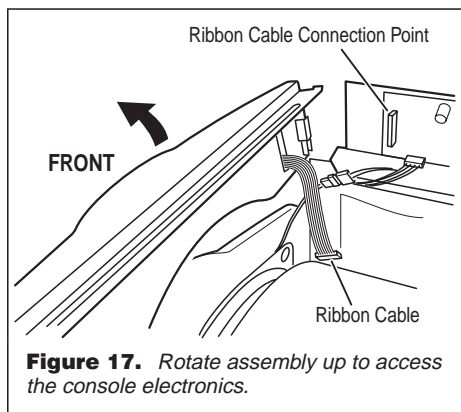

Figure 17. Rotate assembly up to access the console electronics.
1. After locating the machine control electronics, disconnect the ribbon cables that run between the console and the machine control board. Make the disconnection at the machine control side. Remove the two screws that fasten the console assembly to dryer. Then remove the console assembly, sliding it up and off from the front of the machine. See figure 17.